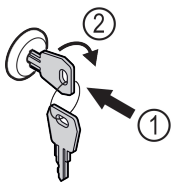

Fig. 192 Example illustration
- Insert key Fig. 192 (1).
- Turn key clockwise by 90° Fig. 192 (2).